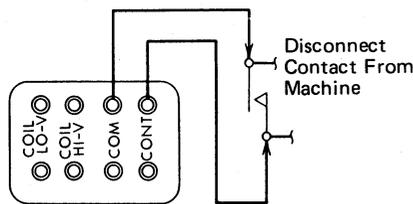

Figure 4-15. Contact Connection
1. The CONT and COM hubs are shorted together through a cam or relay point when no voltages are present. This is called contact connection (Figure 4-15).